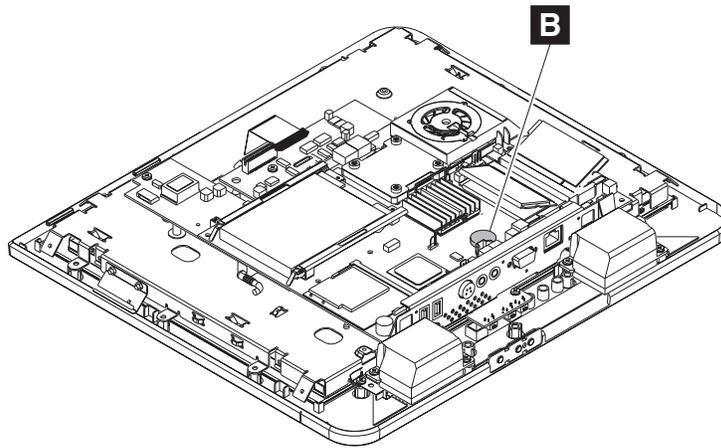

Figure 21. View of battery and heatsink,
2. Locate the battery on the main planar assembly (**B** in Figure 21).